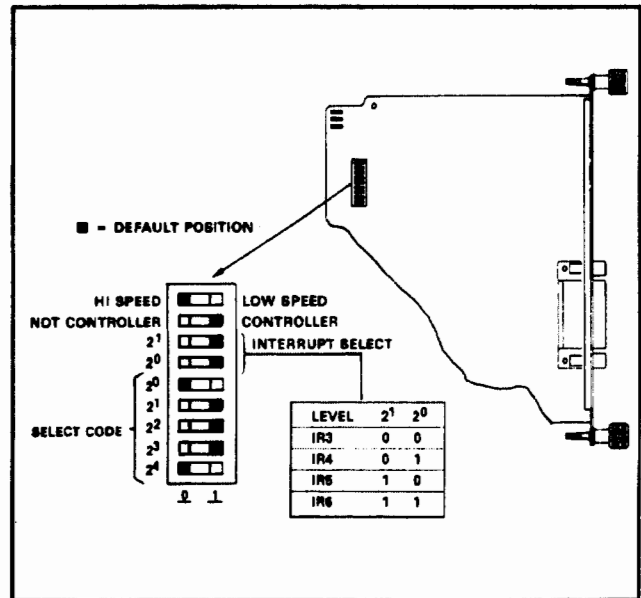

Figure 2-9. HP 98625B Configuration Switch
- If you are using a dedicated HP 98625B disc Controller card, check that its default configuration settings (see Figure 2-9) do not conflict with the rest of your system. In most installations you can leave the card in its default configuration. Using the HP-IB cable supplied with the drive, connect the drive to the card's HP-IB port, as shown in the example of Figure 2-8c.